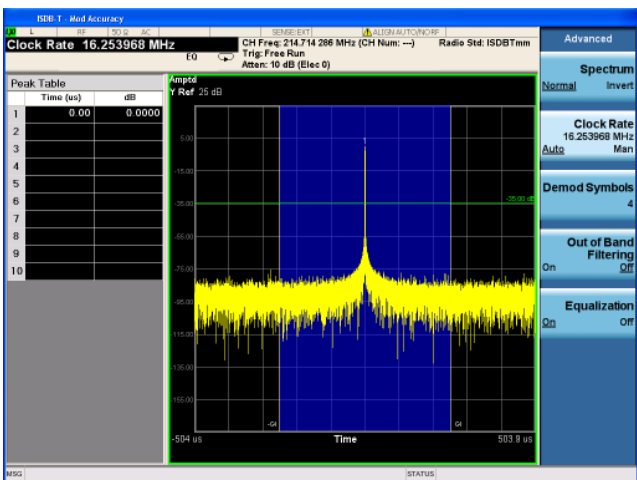

Figure 23. Channel impulse response view for ISDB-Tmm signals
View the channel impulse response results (Figure 23)	[View/Display] {Channel Impulse Response}
- **Channel impulse response view** (Figure 23): This two-window view displays the state of the channel in time domain which the signal has gone through.